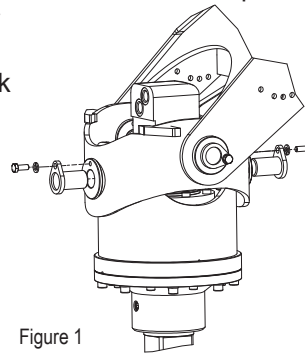

Figure 1
4. Undo the bolts and remove the front and rear teardrop pivot pins (Figure 1).
1. Use a chisel to remove the shaft seal (Figure 1).